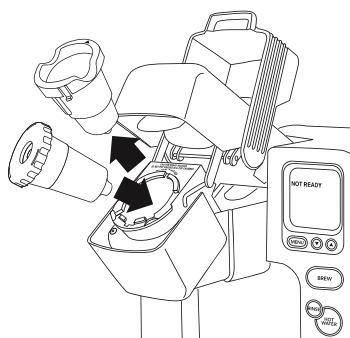

figure 15
8. Drop the assembled My K-Cup® into the brewing chamber. (No need to snap it into place). See figure 15.